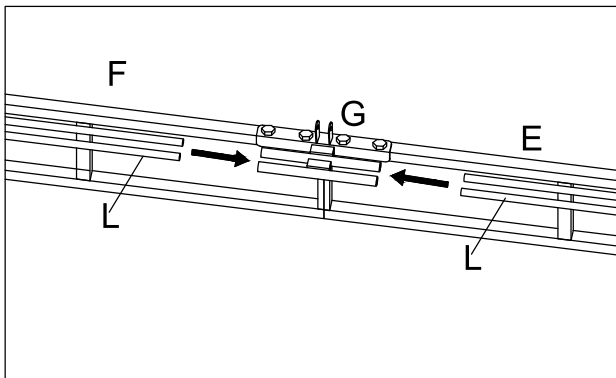

Fig.3.3
2.3.Insert one end of the Short Net Tube (L) into the Connector (G) and Connect the other end of the Beam (E/F) with Bolt (DD), See Fig.3.3-Fig.3.4.